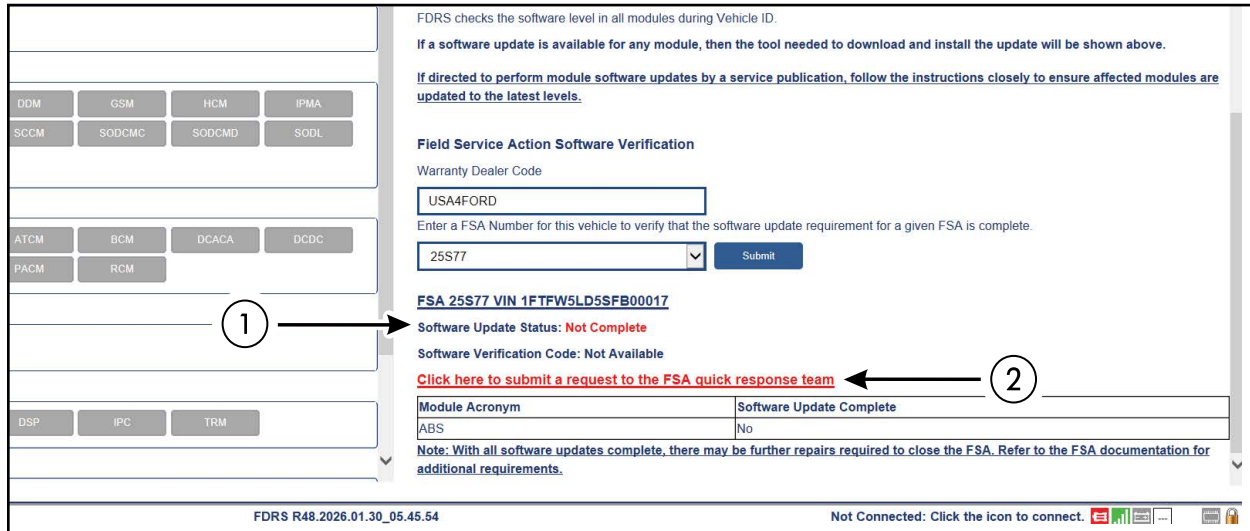

FIGURE 5
See Figure 5.
20. Use the "Click Here to submit a request to the FSA quick response team" link (2) shown in Figure 5. Follow the on-screen prompts to enter the following information: